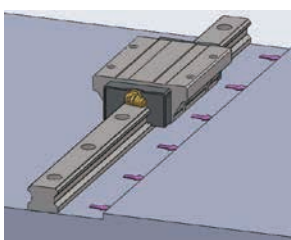

Fig 2. Holding an linear guide rail against the reference surface
(B) Gently place a linear guide rail on the base, and temporarily tighten the bolts so that the rail lightly contacts the mounting surface. Hold the line marked side of the linear guide rail against the base-side reference surface (Fig 2)